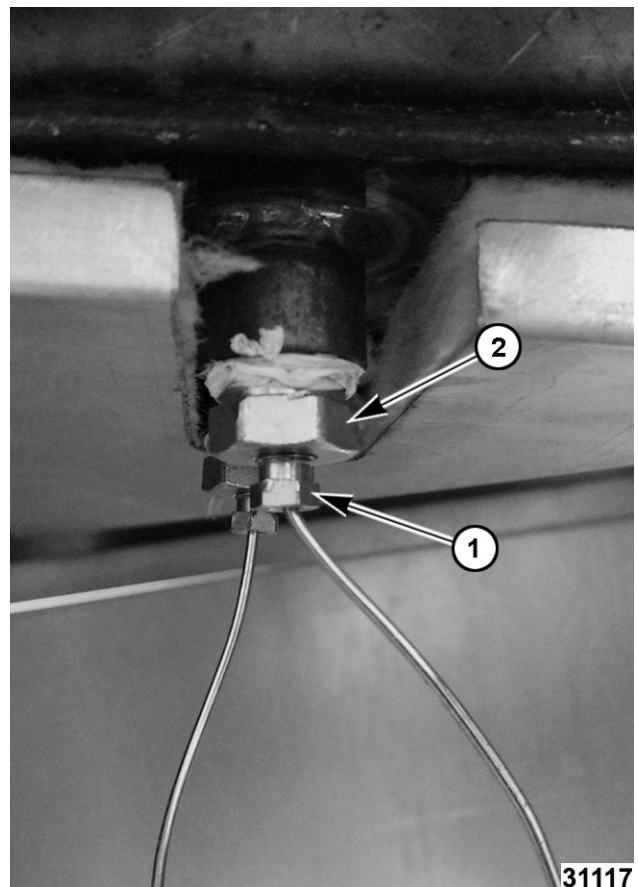

Fig. 11
8. Loosen packing nut (1, Fig. 11) and remove holding nut (2, Fig. 11).